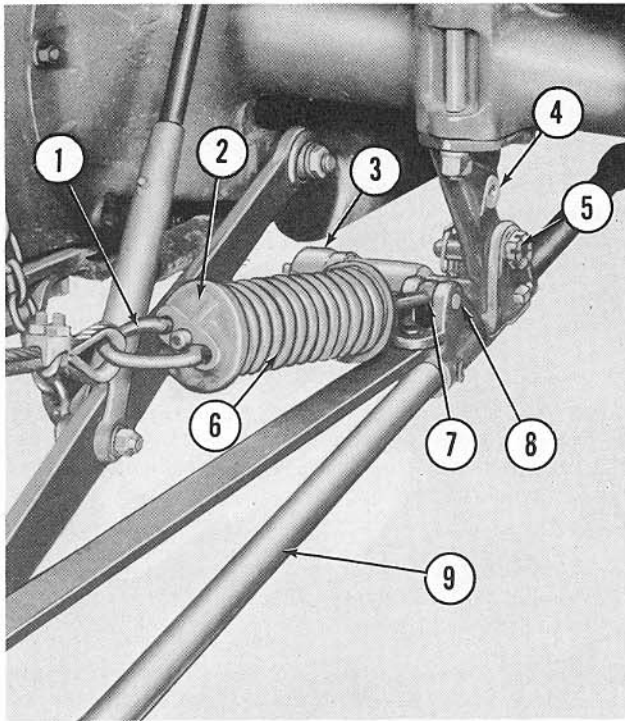

Figure 15
24. Attach the pull bar pin (5), Figure 15, to the anchor bracket (4). Secure with the linch pin provided.
25. Turn the adjusting bolt (7), Figure 15, out of the balance spring (6) until it is flush with the spring cap (2) and attach the bolt (7) to the pull bar bracket with the pin (8) and cotter pin.
NOTE: The adjusting bolt (7), Figure 15, is manufactured with a bend in it so that when properly attached the balance spring (6) will be on the left side of the pull bar (9).
- d. Raise the right side of the mower main frame with the tractor leveling crank until the U-bolt (1), Figure 15, starts to pull out from the spring cap (2). As the mower is broken in, it is probable that this adjustment will have to be repeated until all of the initial "stretch" is worked out of the new cable.